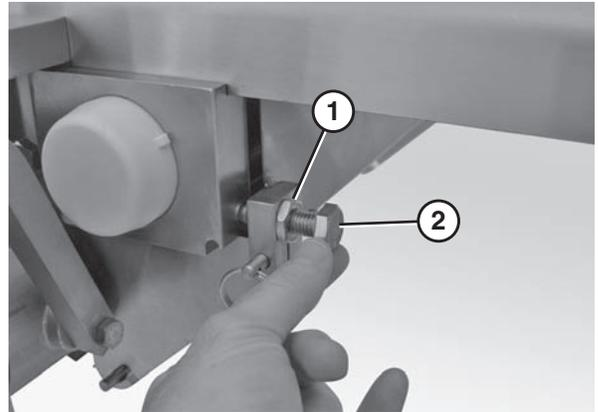

Figure 56
1. Loosen the guide plate nuts (**Figure 56, item 1**) on the infeed side of the center drive assembly.
2. Tighten the guide plate bolt (**Figure 56, item 2**) to move the belt away from that side of the conveyor.